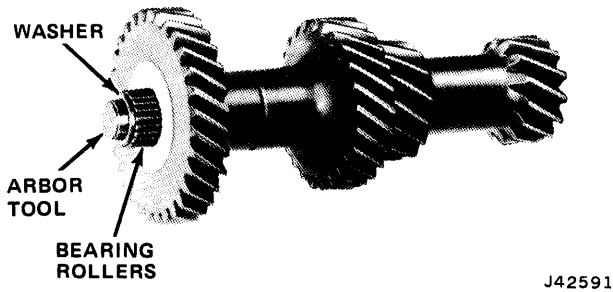

Fig. 6-27 Countershaft Gear Arbor Tool Installed
- (1) Lubricate all parts with transmission lubricant unless noted otherwise.
- (2) Install reverse idler gear, roller bearings, and thrust washer using Tool J-25203.
- (3) Install reverse idler gear shaft (forcing out Tool J-25203). Be sure slotted end of shaft is correctly aligned with lock plate.
- (4) Install center spacer and Arbor Tool J-25199 in countershaft gear bore.
- (5) Install bearing washer at each end of center spacer. Slide washers over arbor tool until seated against spacer.
- (6) Install 22 roller bearings at each end of countershaft gear and install bearing washer over roller bearings at each end of gear (fig. 6-27 and 6-28).
- (7) Coat large countershaft gear thrust washer with petroleum jelly and install at front of case.
- (8) Coat small countershaft gear thrust washer with petroleum jelly and install on countershaft gear hub with lip facing groove in case.
- (9) Position countershaft gear assembly in case. Align gear bores with case bores and install countershaft from rear of case. Be sure lock plate slot in shaft is correctly aligned with slot in reverse idler gear shaft. Arbor tool will be forced out as countershaft is installed.
- (10) Install lock plate in slots of reverse idler shaft and countershaft. Tap end of shafts until lock plate is seated against case.